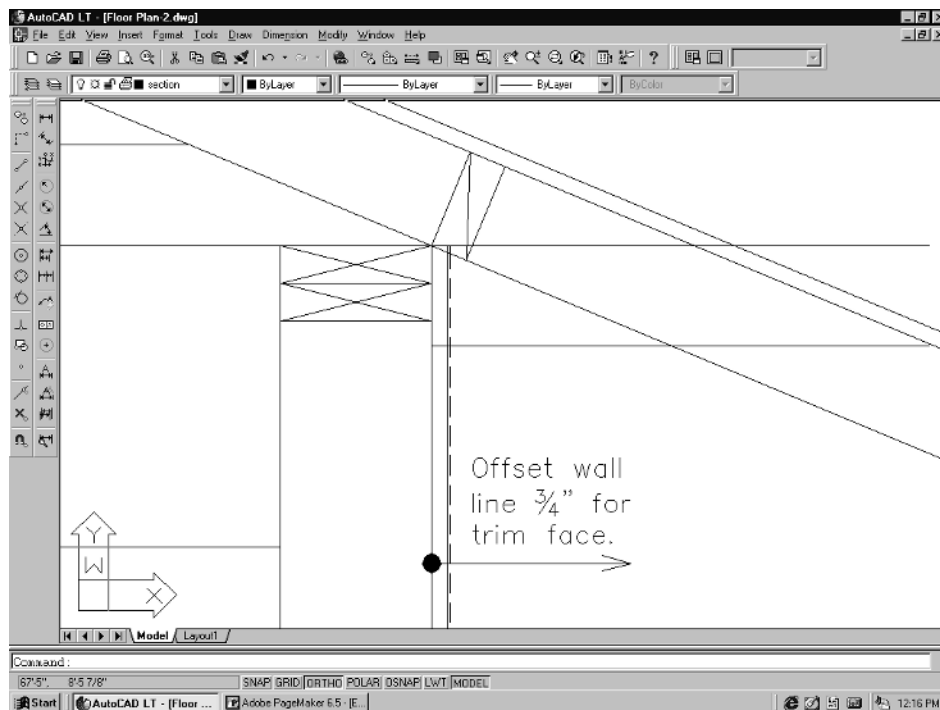

Figure 3-59
12. You need to offset the wall line one more time to form the front piece of the 1x4 trim as in Figure 3-59. Then, use the Trim and Fillet commands to clean up the lines.